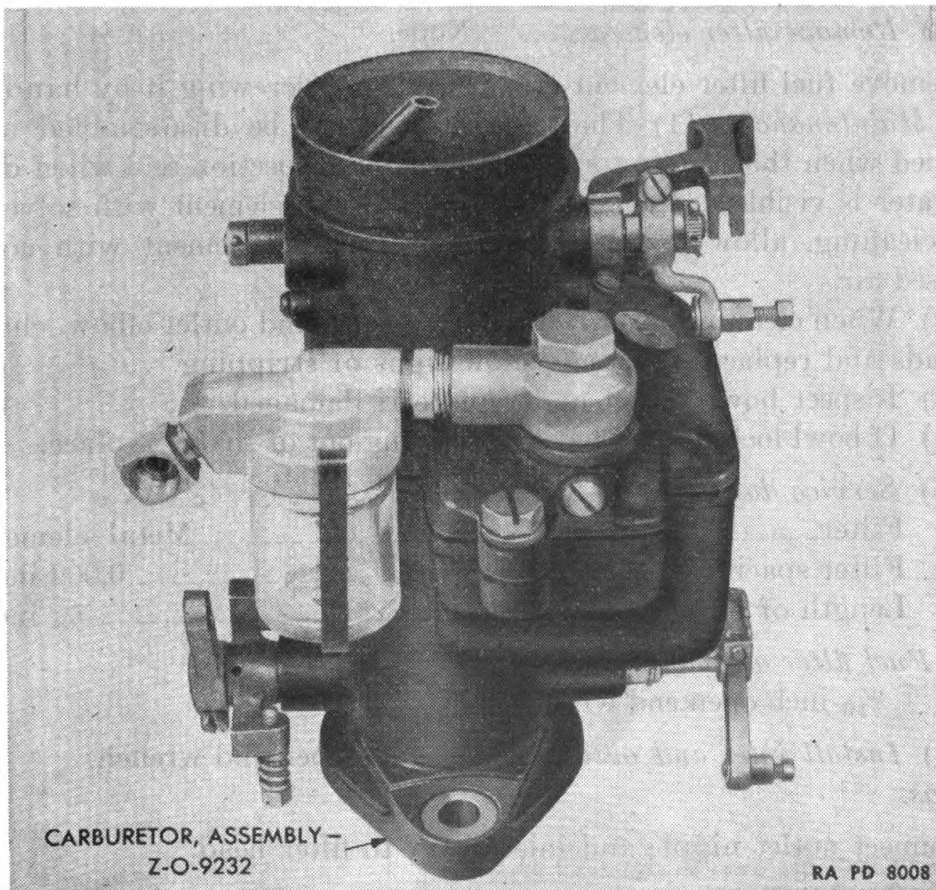

FIGURE 187.—Fuel filter, installed.
54. Fuel filter.—*a. Description* (fig. 187).—The fuel filter is located at the right side of the engine and is attached to the carburetor fuel inlet fitting by means of a close nipple.